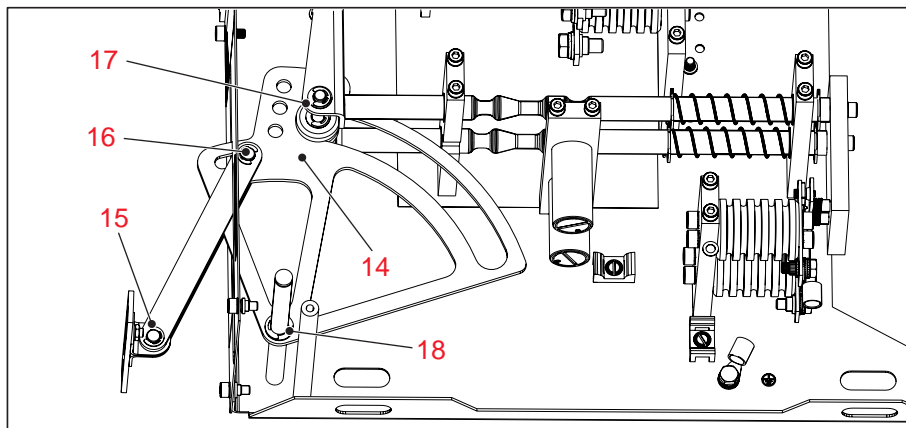

Figure 24
- Check the joints (15, 16, 17, 18) on the link lever (14) for ease of movement. In the case of stiffness, lubricate the joints on the spots (15, 16, 17, 18) with special grease BARRIERTA I SL/OX, see **Figure 24**.